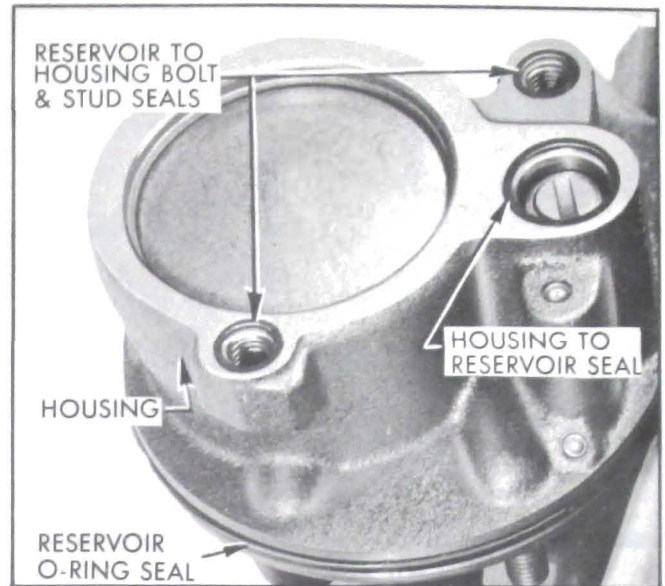

Figure 8-65—Housing to Reservoir Seals
the housing to reservoir bolt and stud seals. See Figure 8-65.
13. Install a new reservoir O-ring seal on housing. Place a new reservoir to housing seal and new reservoir to housing bolt and stud seals in counter bores in housing. See Figure 8-65.